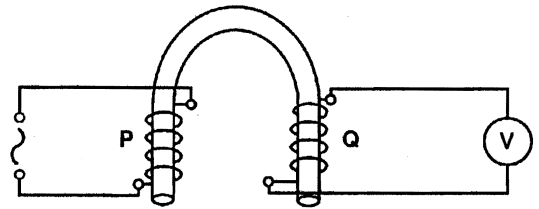

Fig. 12
- 69 (b) Fig. 12 shows the arrangement used in a further set of experiments in which coil P is connected to a 6 V alternating supply.